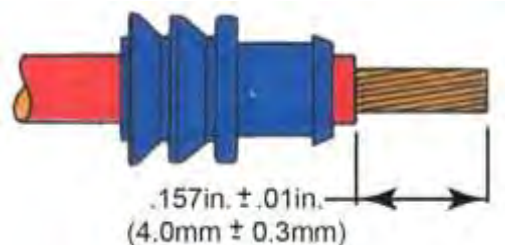

Figure 74
- Using wire strippers, strip insulation from wire to obtain the strip length of 0.157in. \pm 0.01in. (4.0mm \pm 0.3mm) as shown in Figure 74.